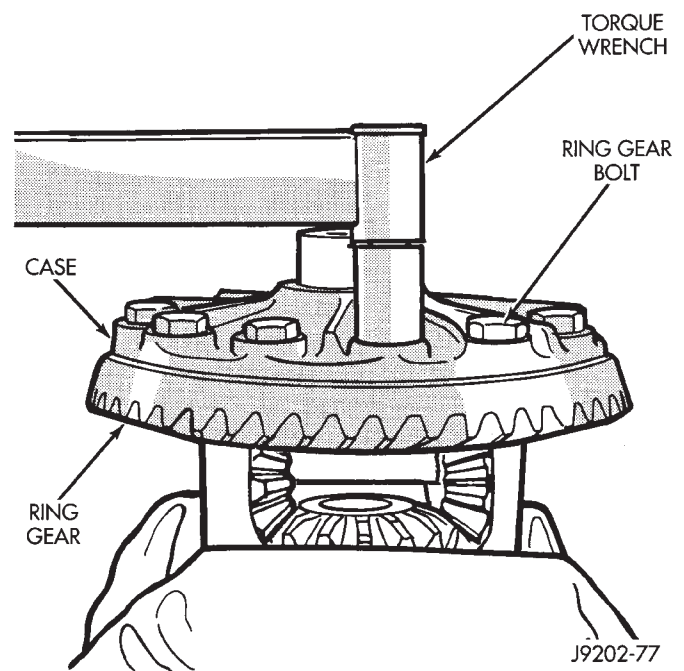

Fig. 39 Ring Gear Bolt Installation
(1) Invert the differential case and start two ring gear bolts. This will provide case-to-ring gear bolt hole alignment.
(2) Install new ring gear bolts and alternately tighten to 95-122 N·m (70-90 ft. lbs.) torque (Fig. 39).